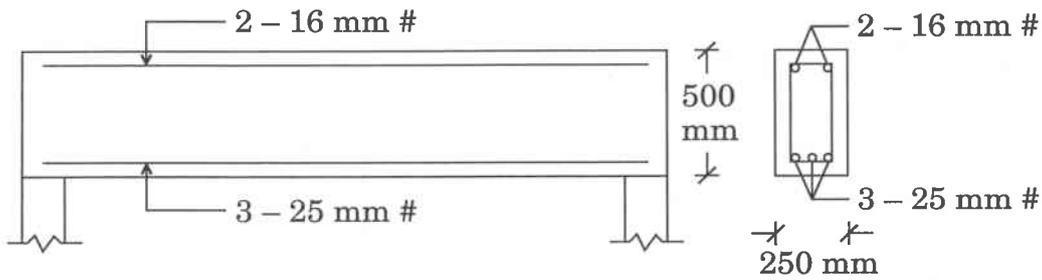

Figure 4(c)
- (c) Design shear reinforcement (limit state of collapse : shear only) and apply all necessary checks for doubly reinforced beam shown below in Figure 4(c).